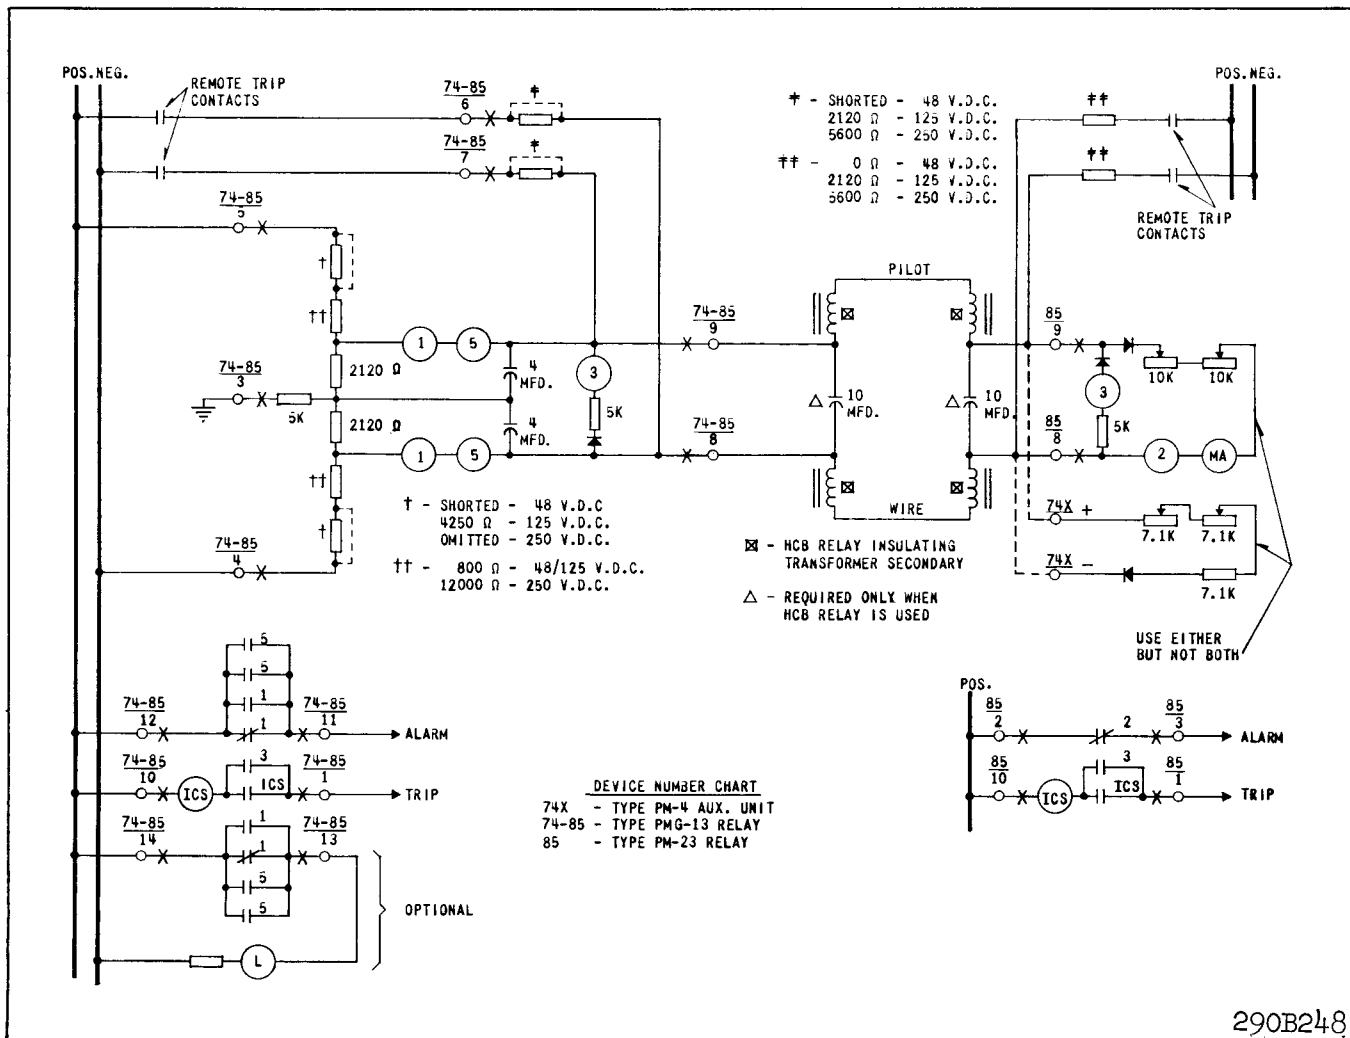

Fig. 21. External Schematic of the DC Type PMG-13 Relay with Type PM-23 or PM-4 Relay - Two Terminal Lines.
Connect per figures 21 or 25, except load terminals 8 and 9 with 20,000 ohms resistance for 2 terminal line relays and 10,000 ohms for three terminal line relays. Apply rated d-c voltage to terminals 4 and 5. The upper polar unit (1) contact should float. Then successively short circuit and open circuit terminals 8 and 9. The right-hand contact of the upper polar unit (1) should close with a short circuit. The left-hand